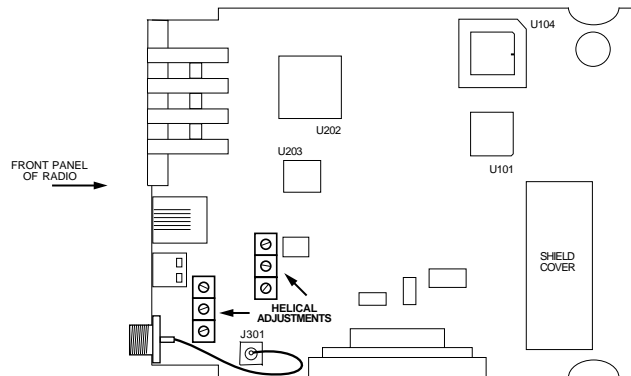

Figure 14. MDS 4710B helical filter locations
2. Locate the helical filters on the PC board. See Figure 14 (MDS 4710B) or Figure 14 (MDS 9710B) as appropriate.